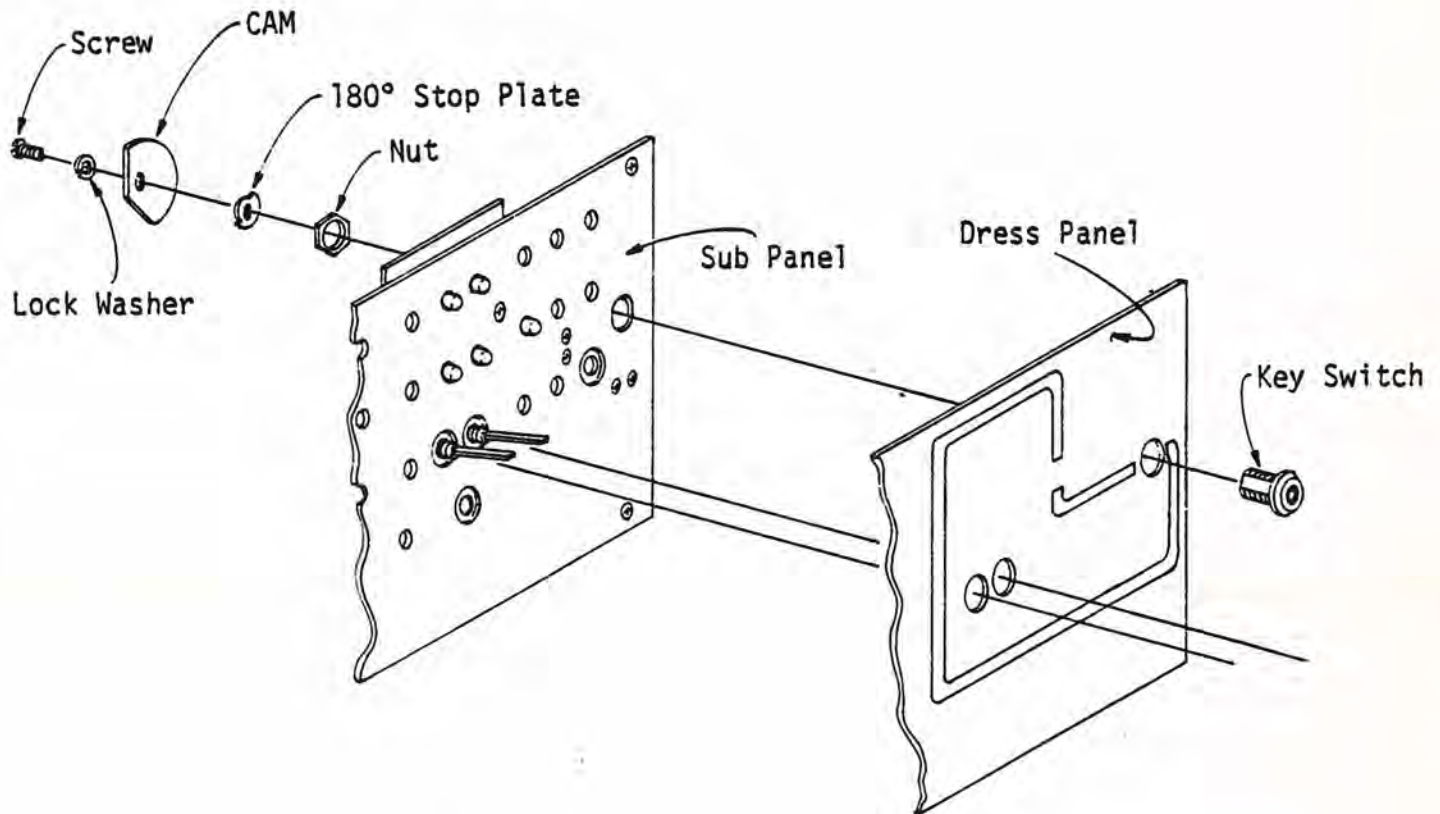
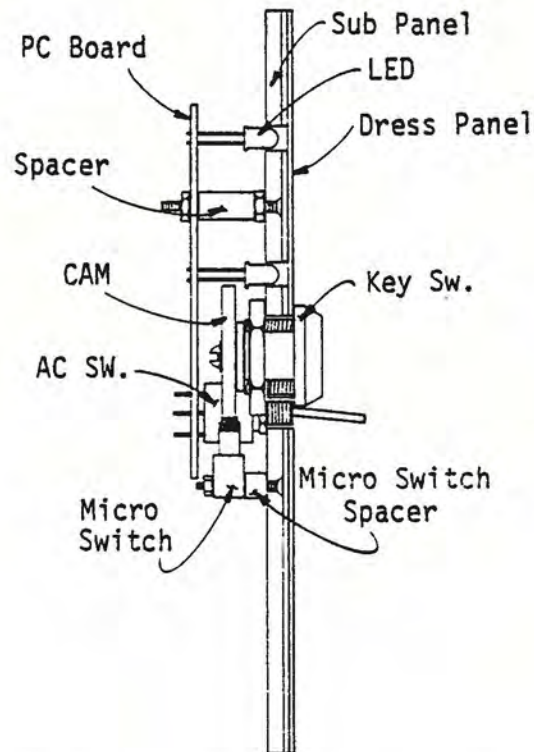

Figure 5-73 Key Switch Installation
Figure 5-74 Dress Panel Mounting on the Subpanel
Before installing the key switch study Figure 5-73 to determine the proper order and precise orientation of the hardware used for installation of this component. If the cam and 180° stop plate are not positioned correctly the key switch will not make proper contact with the microswitches.
2. Insert the key switch in the dress panel as illustrated in Figure 5-73.
3. Mount the dress panel (with key switch) on the subpanel as illustrated in Figure 5-73. Install the remainder of the hardware (180° stop plate, cam, star, lock washer, screw). Figure 5-74 is a side view of the assembled hardware, keyswitch, sub-panel and dress panel.